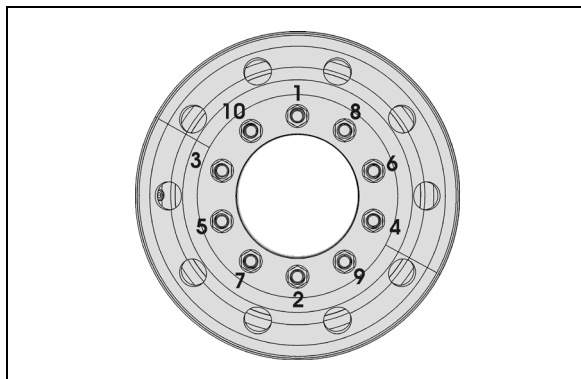

FIGURE 3: TIGHTENING SEQUENCE
It is also important that wheel stud nuts be tightened alternately on opposite sides of the wheel. Refer to Figure 3 for the suggested tightening sequence.
Tighten stud nuts progressively as shown in Figure 3. The final tightening should be done with a torque wrench.
2. Screw in the hex stud nuts (refer to Figure 3 for sequence) so that wheel will position itself concentrically with hub. This is important, otherwise wheel may be eccentric with hub and will not run straight. In this initial step, slightly tighten the nuts to correctly position the wheel;
3. Tighten stud nuts progressively as shown in Figure 3. The final tightening should be done with a torque wrench.
With inner and outer wheels installed, tighten the stud nuts progressively as shown in Figure 3. The final tightening should be done with a torque wrench.
Repeat for each of the 10 *"hex stud nuts"* according to the tightening sequence in FIGURE 3.
Using a calibrated torque wrench, tighten wheel nuts. Do not use power tools or long bars for tightening. Tighten wheel nuts alternately as shown in FIGURE 3.